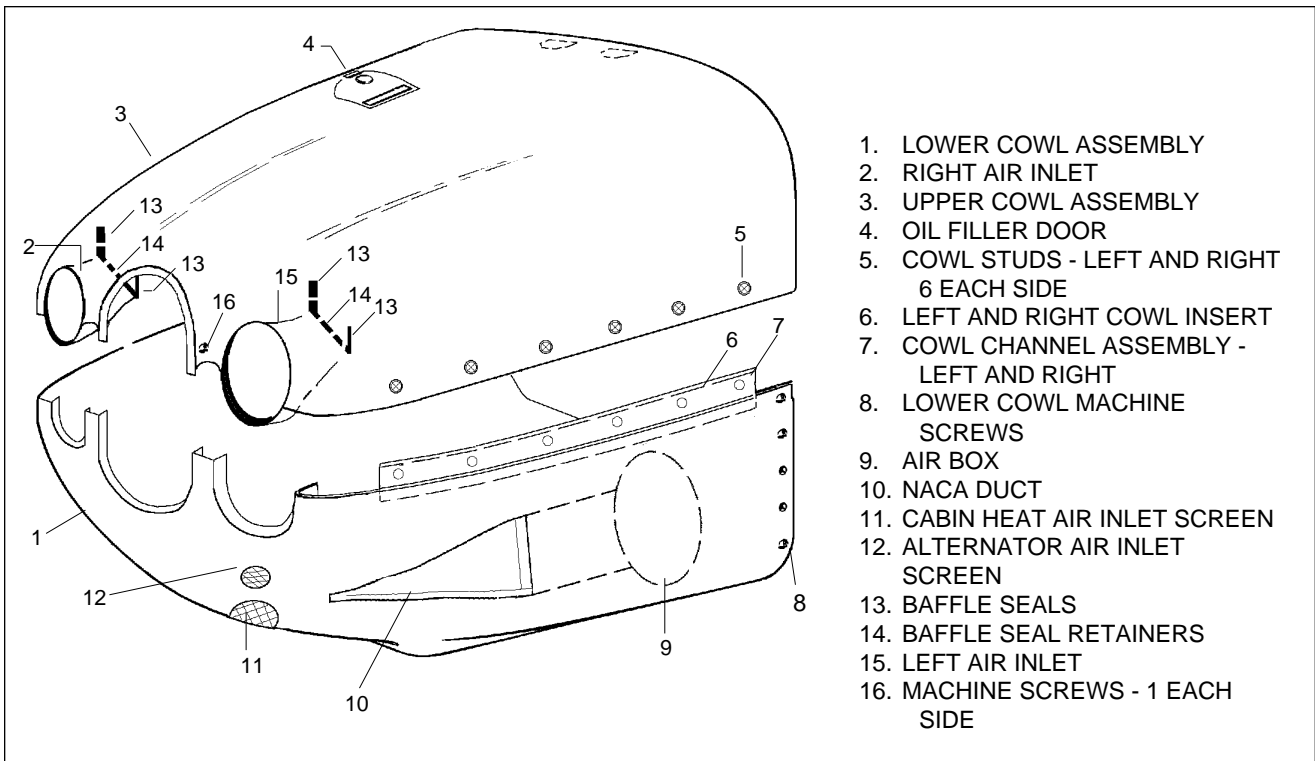

Figure 71-7. Archer III Cowling (S/N's 2890206 and up)
2. Archer III - S/N's 2890206 and up. (Refer to Figure 71-7.)